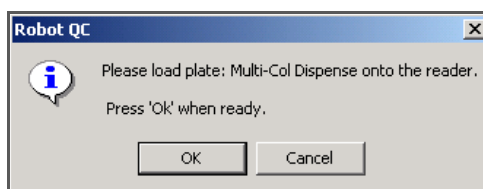

Figure 95 Multi-Col Dispense Prompt
- When prompted (Figure 95), unload the Ind-Col Dispense plate, and then click **OK**. Discard the plate according to laboratory guidelines.
1. When prompted (Figure 95), load the Multi-Col Dispense plate into the spectrofluorometer drawer. Click **OK**.